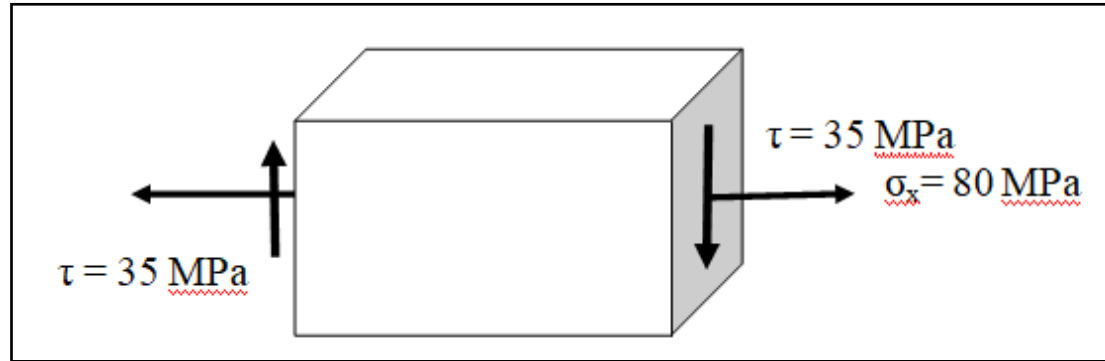

Fig.5
5. (a) At a point in the web of a simply supported girder (Fig.5), the horizontal bending tensile stress is 80 MPa and the shearing stress at the same point is 35 MPa. Determine the following: